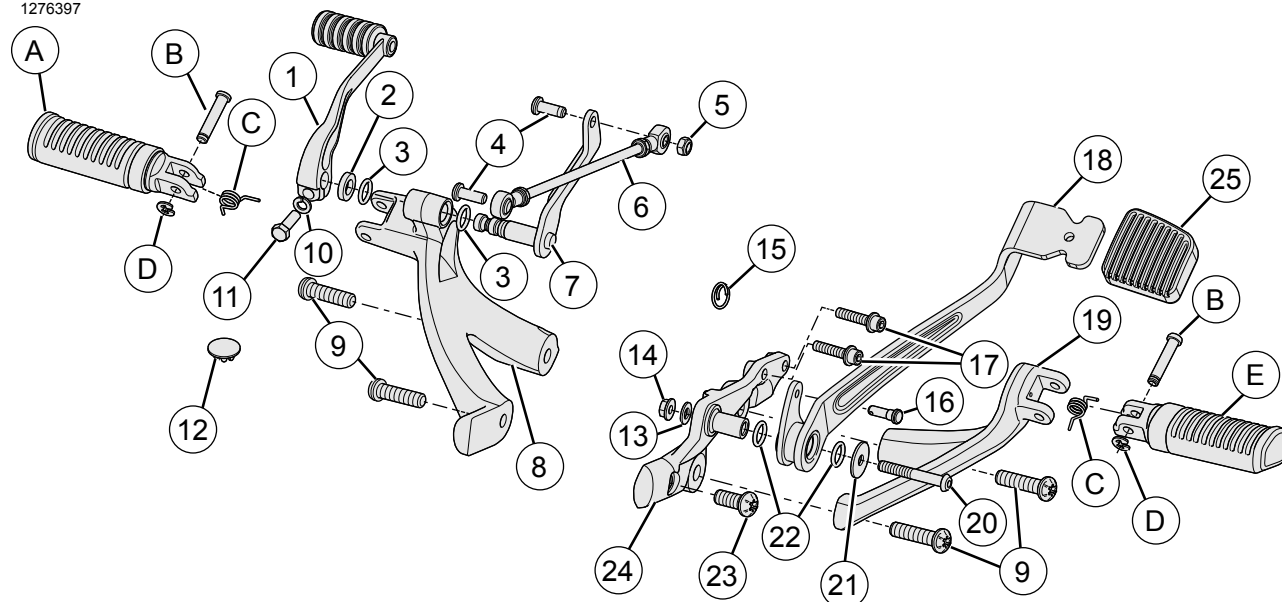

Figure 11. Service Parts: Forward Controls Kit - Chrome
1. See Figure 11. Select the brake pedal bracket assembly and screw (23) from kit.
- a. See Figure 11. Select right foot support bracket assembly and screws (9) from kit.